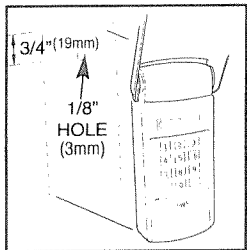

Figure 2
1. Choose a location that will not interfere with the normal operation of the gate. See Figure 2.
3. Drill a 1/8" (3mm) hole 3/4" (19mm) directly below this mark. See Figure 2.